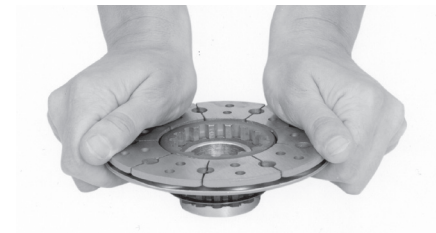

Figure 2
- Step 3 Holding the armature with the segmented side up, press the armature onto the splined hub. This is most easily done by applying firm back-and-forth pressure. (Figure 2)